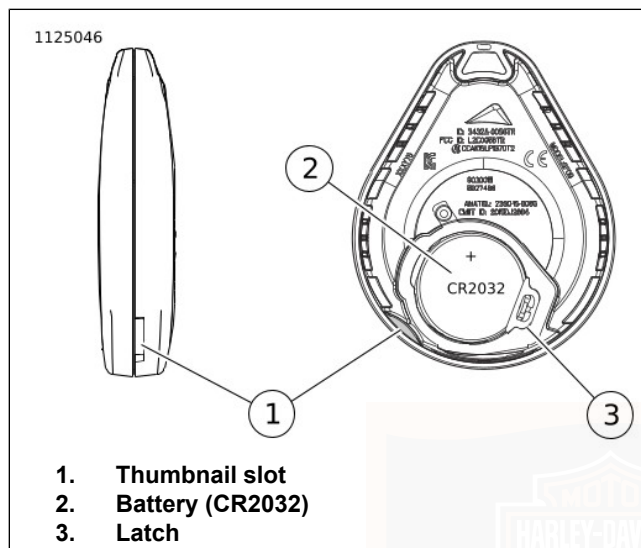

Figure 18. Replace Fob Battery
- See Figure 18. The serial number of the fob is also found on the inside of the fob.
1. See Figure 18. To open the fob, turn a thin blade in the slot (1).
2. Remove the battery (2) and discard in accordance with local regulations.